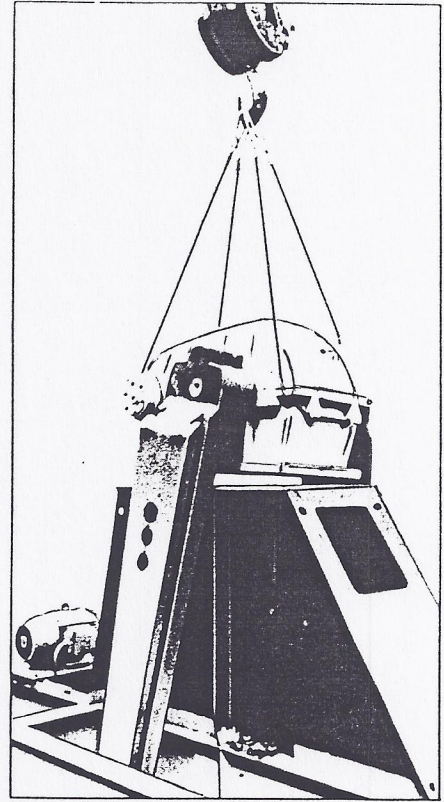

Figure 3
- b. Slide the gear reducer over the unit base from the front or rear and position it on the subbase. See illustration in Figure 3. Be sure bottom of gear reducer and top of subbase surfaces are properly cleaned and that all spacers are in position.